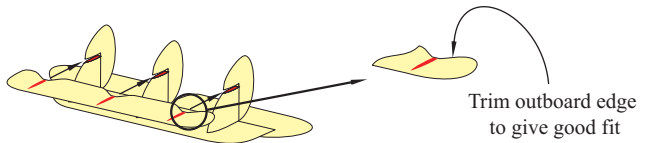

Figure 2
- D Trim the outboard edge of each recess for the outboard fins of the upper horizontal stabilizer, until it fits easily, with the fins vertical, and without any distortion (Refer to Figure 2).
E Attach the upper horizontal stabilizer (Refer to Figure 2).